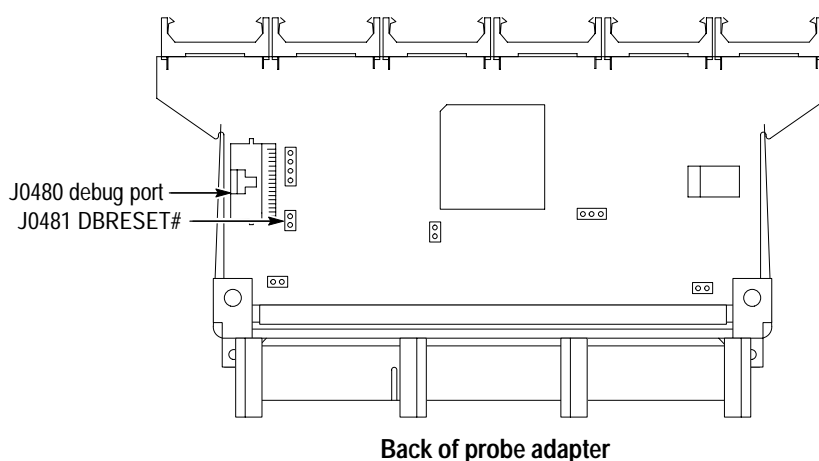

Figure 1–10: Location of debug port and DBRESET# pins on the probe adapter
**Optional System Reset.** The debug circuitry on the Probe Adapter does not allow external debugging hardware to induce a system reset through the DBRESET# signal on the Debug port. If you need to enable this feature, you must provide the connection to your system under test. Table 1–3 lists the signals on the J0481. Figure 1–9 shows the location of the pins on the probe adapter.